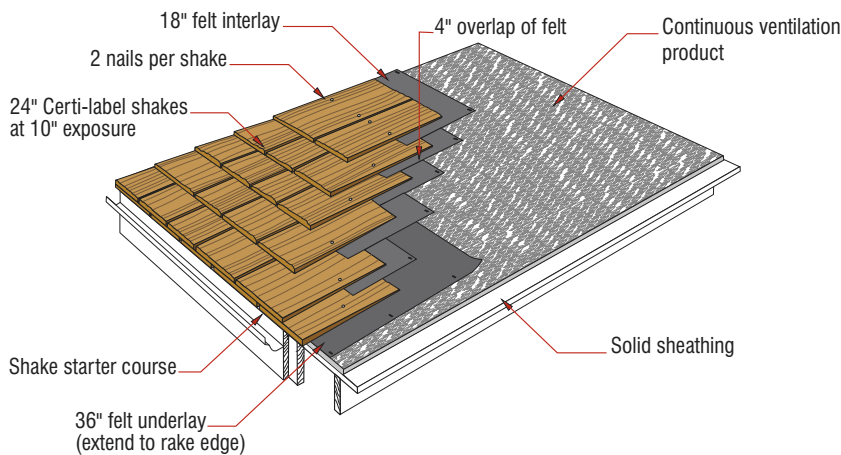

Figure 23c: Continuous Ventilation Product
4. A continuous ventilation product may be used beneath the Certi-label roofing material. (See Figure 23c).